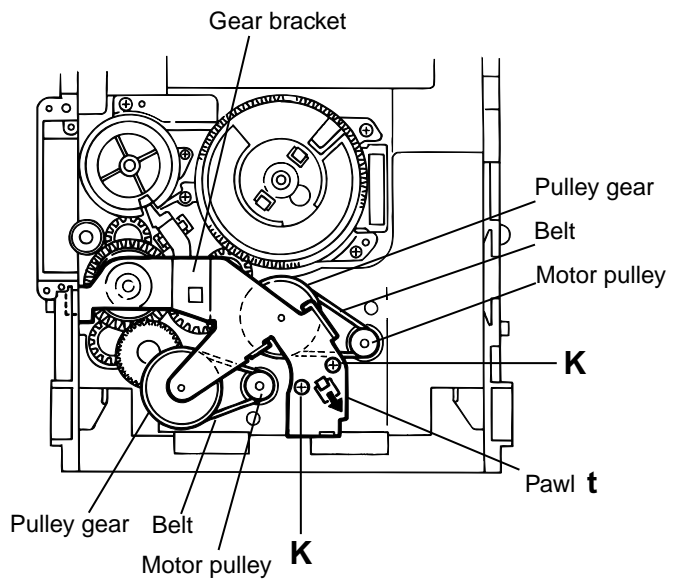

Fig.18
(See Fig.18~21)**
(See Fig.18).
4. Remove the belts respectively from the right and left actuator motor pulleys and pulley gears(See Fig. 18).